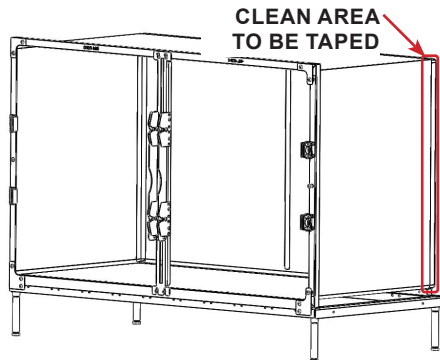

FIGURE 2.55 - Cage Surface Prep
STEP 4: Thoroughly clean the cage with alcohol wipes to remove grease, oil and dirt. The two-sided tape will not adhere to surfaces if not clean and clear of dirt and oils. Refer to "Use and Care" section for safe cleaning recommendations. See FIGURE 2.55